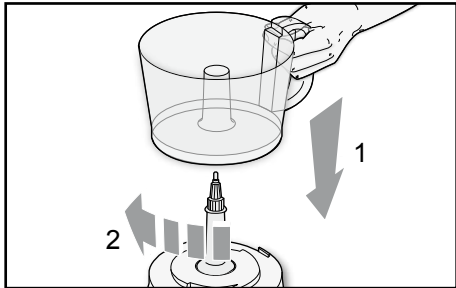

Fig. 3
- Fit the bowl (D) onto the power base (B) and lock it into place turning it clockwise so that the tab in the bottom section of the handle clicks perfectly into the slit in the power base (Fig. 3).